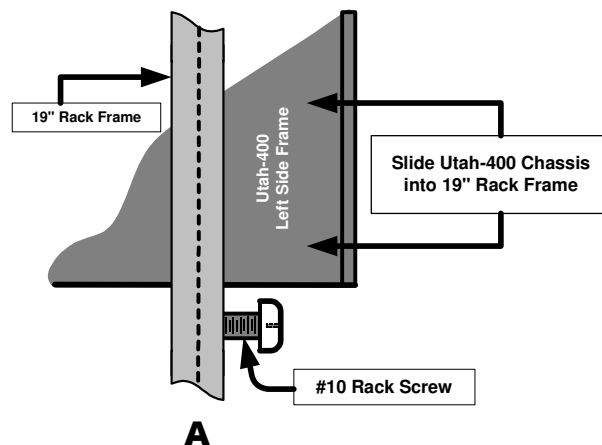

FIGURE 2-3. Sliding the Utah-400 Chassis into Rack Frame
- b. Install two rack screws into the empty rack frame below the height determined in step a, above. These screws will be used to support the weight of the chassis when it is moved into the rack frame. See Figure 2-3, Section A.
- d. Move the chassis to the 19" rack frame and carefully slide it into the rack frame, hooking the flange of the chassis above the rack screws installed in step b., above. See Figure 2-3, Section B.